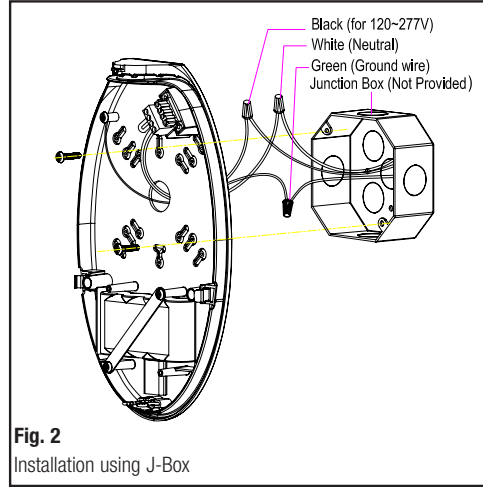

Fig. 2
4. For "Normally Off" standby battery backup operation only: connect the AC power as shown in Fig. 2 or 3 below and remove the jumper between terminals 1 and 2. The slide switch is defeated in this mode so it can be in either the Photo Sensor or Wall Switch positions.